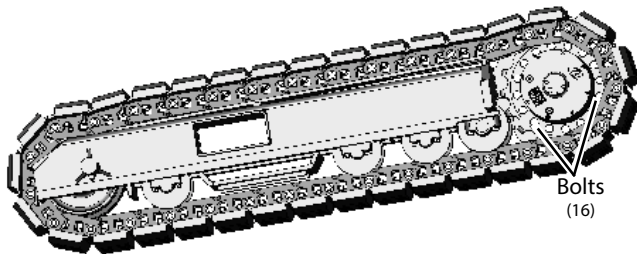

Figure 5-28. Torque Hub
7. Remove bolts holding torque hub to track undercarriage. (Figure 5-28)